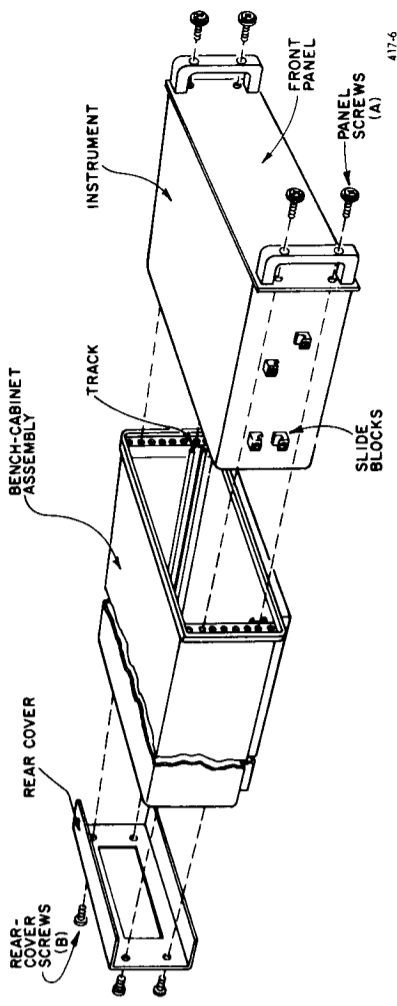

Figure 2-4. Bench-cabinet installation.
- d. Fasten instrument to cabinet using dress-panel screws (A, figure 2-4).
- e. Transfer the rear cover, with screws (B), from rack cabinet to bench cabinet.